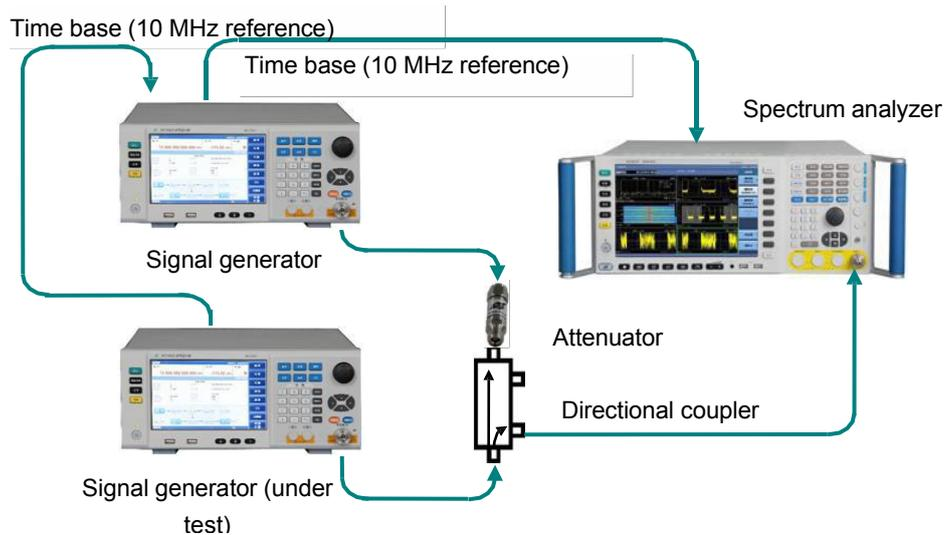

Figure 7.10 Connection diagram for test on output port source standing-wave ratio
1. Connect the test equipment as shown in Figure 7.10. Set the signal generator under test to the status of internal fixed-amplitude continuous wave output, with frequency of 2GHz and output amplitude of 0dBm.